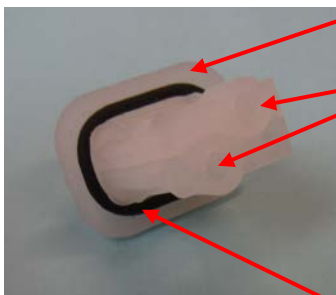

Figure 4-37-2
2. Apply a very small amount of silicone to the shoulder and gasket area of the nozzle and slide into the hole (Refer to Figure 4-37-2).